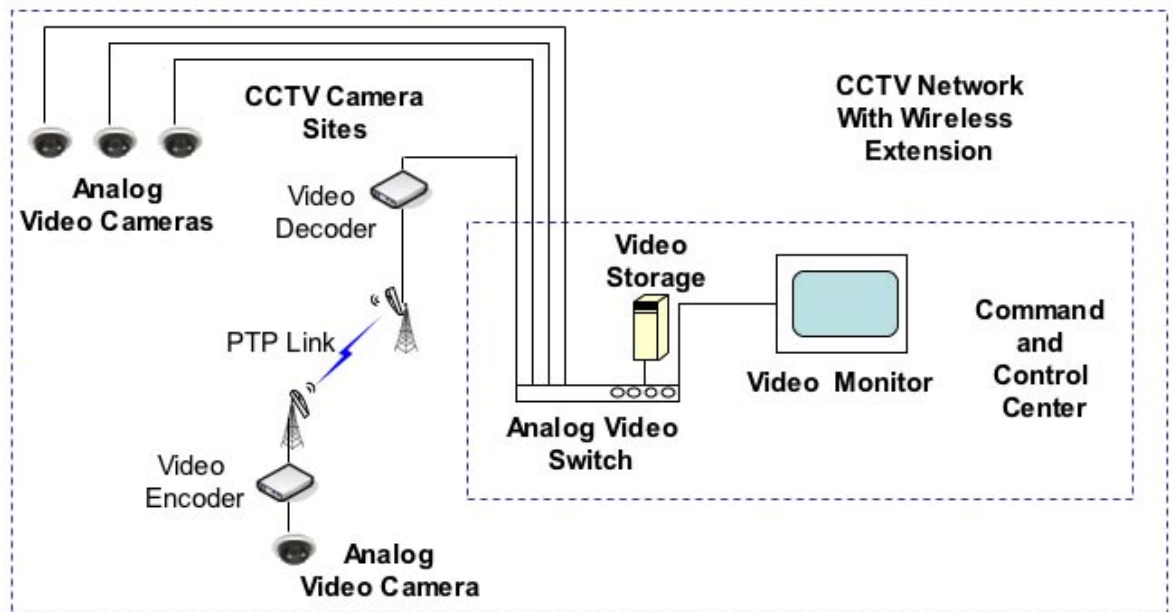

Figure 4. Wireless Point-to-Point Extension to Analog Network
*Extending Analog Systems.* Consider an enterprise where an existing CCTV network provides surveillance for the central office, but now needs to have video surveillance at a remote or unmanned location across town. When surveillance is needed at a location distant from the Command and Control Center, it is difficult and time consuming to establish new coaxial connections to support additional cameras. Should a network operator require an extension to the existing CCTV network as well as existing analog cameras, an IP-based wireless infrastructure solution can easily be designed to extend the network through the use of an encoder to make IP connectivity possible. Although analog-based systems are proven to work in many applications, there are many others in which they are simply not as cost-effective or practical as a wireless system. Figure 4 illustrates an example of a wireless extension to a CCTV network.